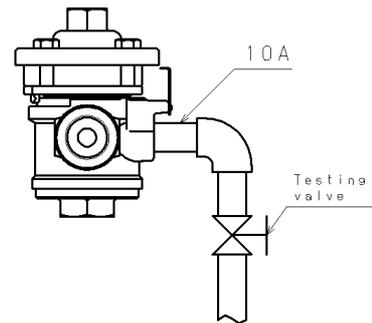

Fig. 7
3. In order to use "TEST" function for operational check of the trap, remove the plug (Rc 3/8) on the test-line outlet of the product at first. Then, after plumping the product as shown in Fig.7, switch the cock to "TEST" position.